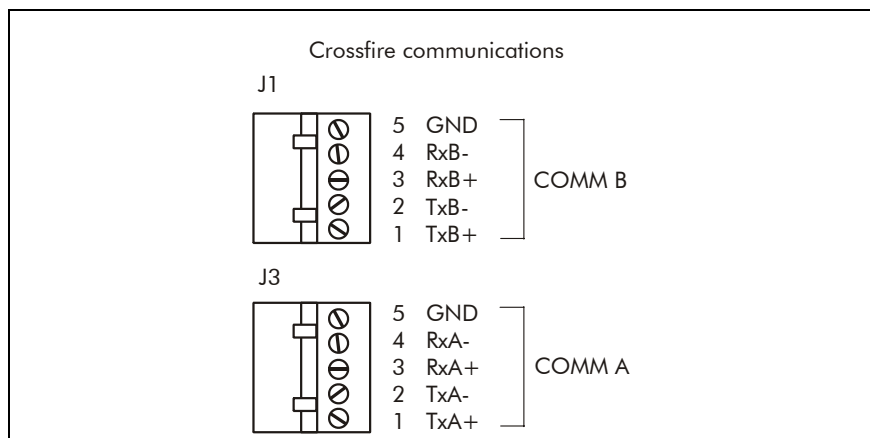

Figure b-4 Network Wiring Connections
4. Make the network wiring connections according to Figure b-4.